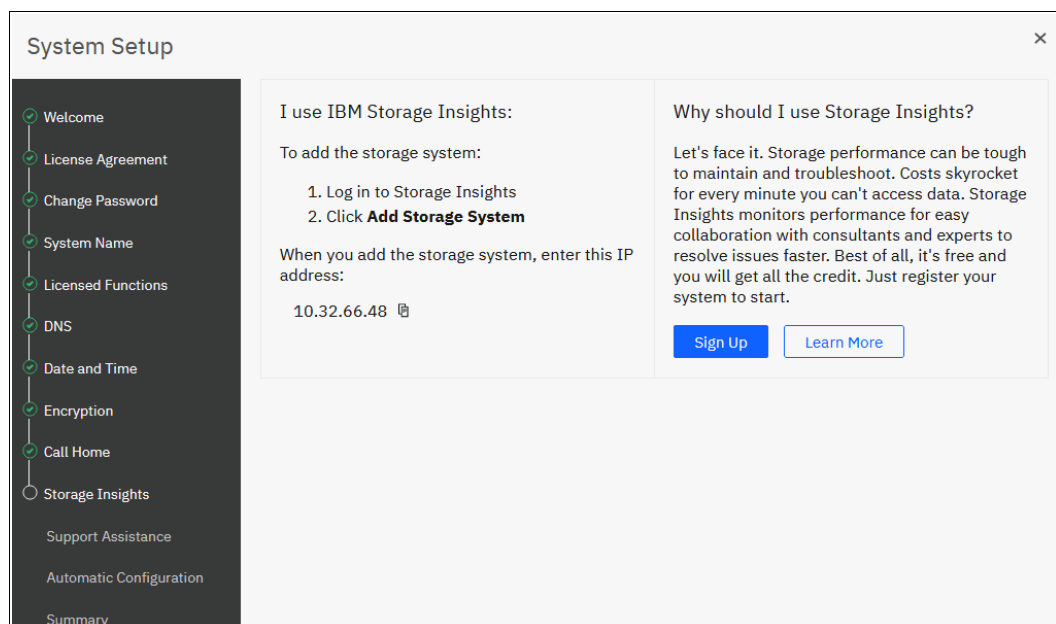

Figure 3-26 Storage Insights information window
17. IBM FlashSystem family systems can be used with IBM Storage Insights, which is an IBM cloud storage monitoring and management tool. During this setup phase, the system attempts to contact the IBM Storage Insights web service. If it is available, you are prompted to sign up (see Figure 3-26). System Setup now provides info about how to enable Storage Insights as shown in. Click **Next** to continue.